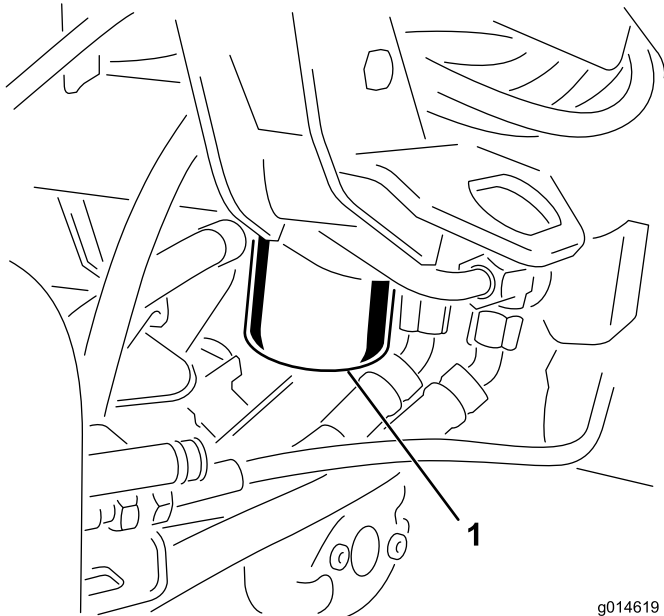

Figure 53
1. Clean the area around the filter mounting area (Figure 53). Place a drain pan under the filter and remove the filter.